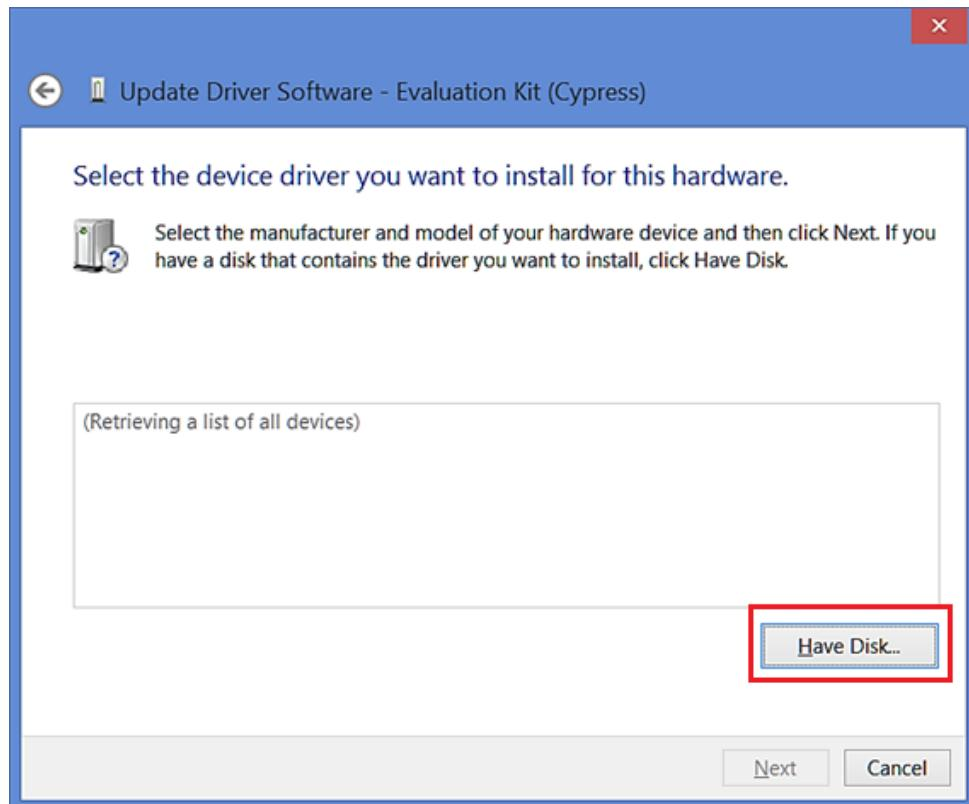

Figure 18: Update Driver Software - 4
7. Choose “Have Disk” (Figure 18)